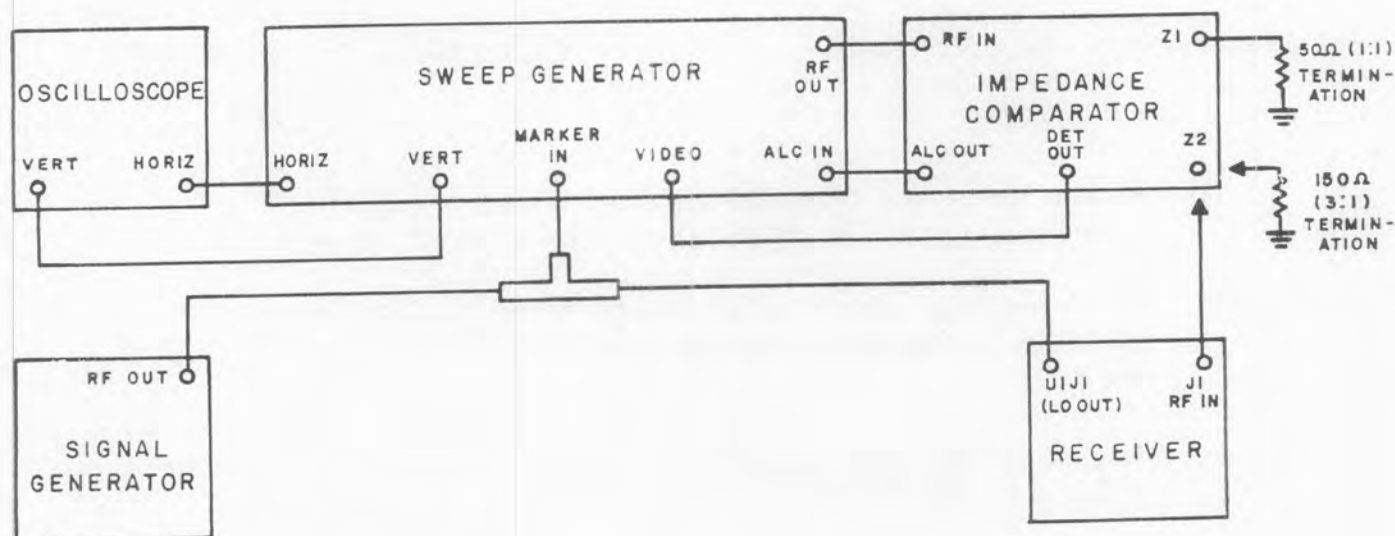

Figure 4-19. Test Setup, Preselector Network Alignment
- (1) Connect the test equipment as shown in Figure 4-19. Select BAND 2 and tune the sweep generator and tuner to 150 MHz. Tune the